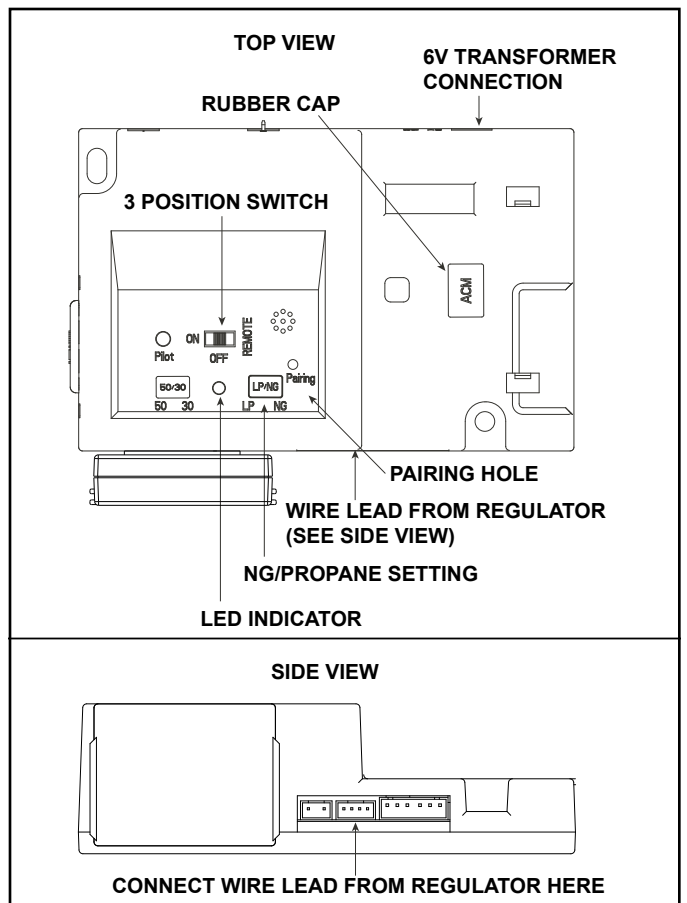

Figure 10 Module - IntelliFire Touch
- Switch control module to OFF mode using selector switch. See Figure 10.
16. Using a small screwdriver, carefully adjust the setting on the module to the appropriate gas type. Slide the LP/NG selector switch to the right for NG or to the left for Propane. See Figure 10. Excessive force may cause damage to the module.